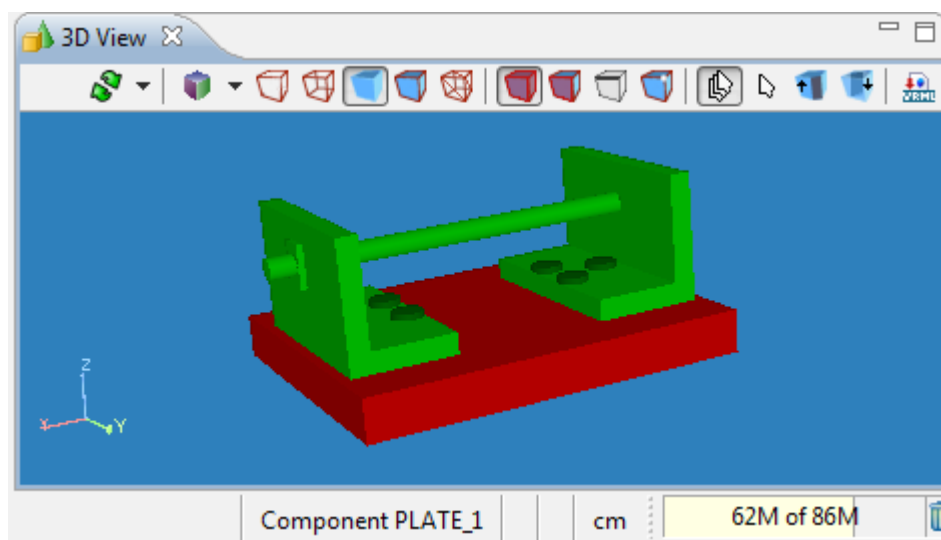

Figure 1. Status bar information, when component is dynamically selected (i.e. 'PLATE_1' - highlighted in red colour)
- Component reference designator, when a particular component is selected (see Figure 1);